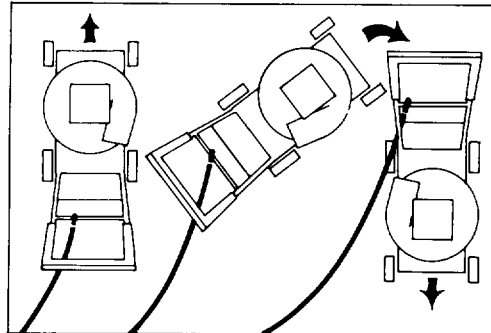

Figure 5
2. When turning around at the end of a cut path, step over the cord and turn mower (Fig. 5). The cord automatically slides to the other side and allows mowing to continue.